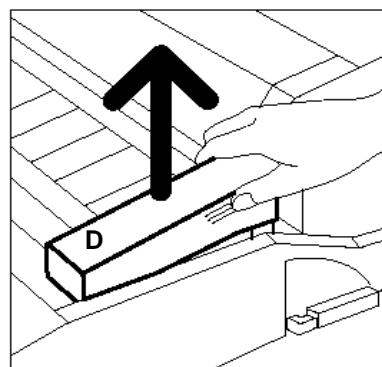

Figure 36: Removing the old Fuser Oil Cartridge (D)
- 6** Lift the Fuser Oil Cartridge straight up off the module, as illustrated in Figure 36. Hold it steady in this position until any excess oil has dripped off the cartridge and into the fuser oil reservoir. Hold a sheet of paper under the bottle nozzle to catch any drips while removing the cartridge from the machine.